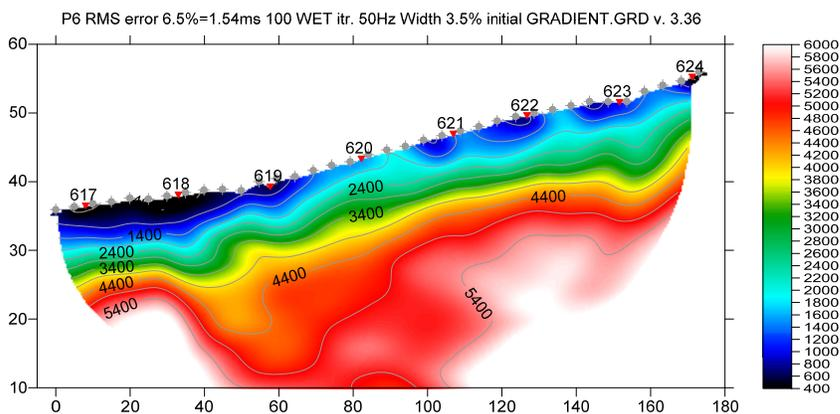
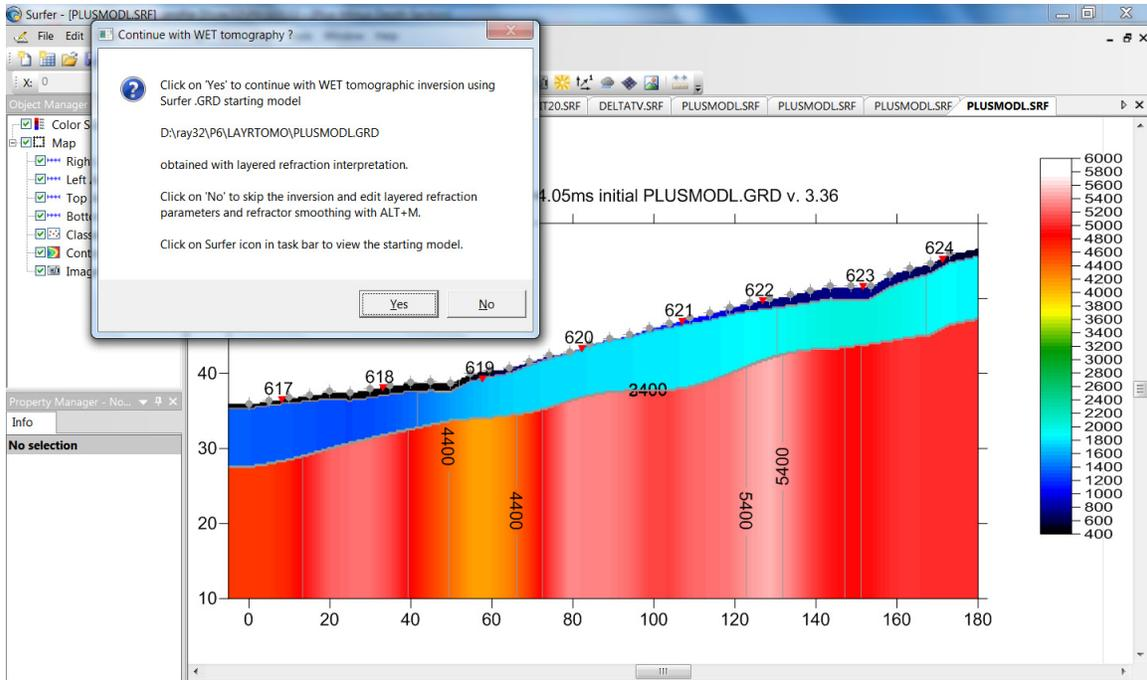
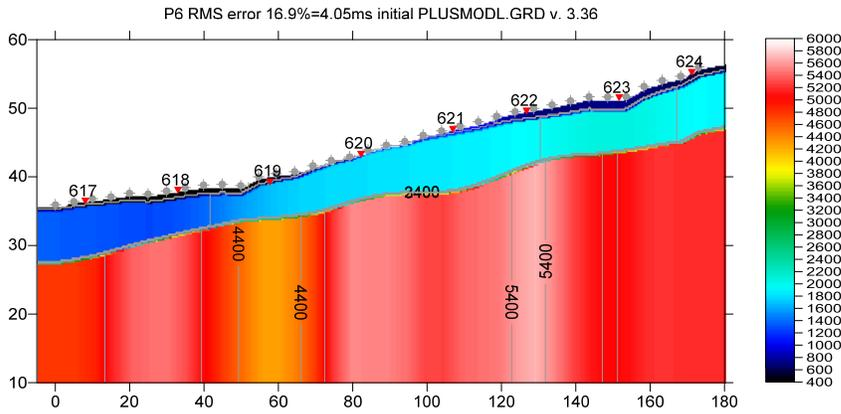

Fig. 8 : 2D WET output obtained with *WET Tomo|Interactive WET tomography* & 100 WET iterations & 1D-gradient starting model shown in Fig. 5
Fig. 11 : Plus-Minus method starting model shown in Surfer. WET continuation prompt is displayed on top of Surfer window.
Fig. 12 : Plus-Minus method starting model
- click button *Start tomography processing* to obtain WET output shown in Fig. 8 :
Fig. 8 shows a fault zone dipping at 45 degrees from offset 30m at topography to offset 60m in basement. This dipping fault zone is also visible in *Refractor|Midpoint breaks* and *Refractor|Offset breaks* displays (Fig. 15) after mapping traces to refractors (Fig. 16). These displays show raw traveltimes before doing any inversion. Instead of sorting your picks by common shot (Fig. 1 right) we now sort picks by common midpoint (CMP ; Fig. 15 left) and by common offset (Fig. 15 right) as described by Gebrande and Miller. See our DeltatV draft paper.
Fig. 9 : *Refractor|Shot breaks*. Shows fit between picked times (solid colored curves) and modeled times (dashed colored curves) for deepest refractor in Plus-Minus starting model (Fig. 12). Hollow squares separate direct wave from overburden refractor. Solid squares separate overburden refractor from basement refractor. Pick both branch points at same station for pinchouts (blue shot curve) or outcrops (red shot curve). Press ALT+L to map traces to refractors.
- select *Depth|Plus-Minus* to display Plus-Minus layered refraction starting model (Fig. 12). When prompted to continue with WET inversion press No button (Fig. 11).
- once the Plus-Minus model is recomputed and redisplayed in Surfer confirm prompt to continue with WET inversion (Fig. 11)
- now we obtain Smooth inversion WET output (Fig. 13) using the Plus-Minus starting model (Fig. 12).
- compare Fig. 13 with Fig. 6 and Fig. 14 with Fig. 8. We can see the same dipping fault zone as described for Fig. 8.
- smooth WET inversion is not dependent on the starting model when using full WET smoothing & Steepest Descent search method : Fig. 6 and Fig. 13 (20 WET iterations each) are similar to each other. Fig. 8 and Fig. 14 (100 WET iterations each) match each other even more closely.
- interactive WET inversion with 100 iterations (Fig. 8 and Fig. 14) takes about 2 minutes on a MacBook Air 2017 laptop using Intel Core i5-5350U processor with 2 hyper-threaded CPU cores at 1.8 GHz running Windows 7 64-bit Pro in Parallels desktop. This allows for a fluent workflow when varying WET inversion parameters.
Fig. 10 : Plus-Minus layered refraction method. Press ALT+L in *Refractor|Shot breaks* to map traces to refractors. Select *Depth|Plus-Minus* to display initial Plus-Minus model. Click No button in WET continuation prompt (Fig. 11). Press ALT+M in *Depth|Plus-Minus* window to bring up parameter dialog. Change Base filter width from default 10 to 4 stations. Press ENTER key to confirm parameters and redisplay Plus-Minus model. Now click Yes button in WET continuation prompt (Fig. 11).
Fig. 13 : Smooth inversion using Plus-Minus method starting model (Fig. 12). 20 WET iterations using Steepest Descent method & Gaussian update weighting & full WET smoothing. Compare with Fig. 6.
Fig. 14 : 2D WET output obtained with *WET Tomo|Interactive WET tomography* & 100 WET iterations & Plus-Minus method starting model shown in Fig. 12. Compare with Fig. 8.